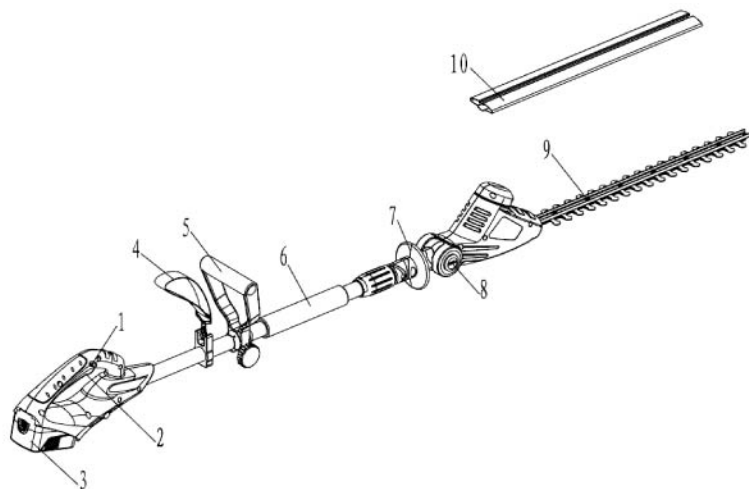

Fig.21
- When the machine is working, the hand don't exceed guard (7) or come into contact with blade (9),
- See Fig 21
OVERVIEW (Fig.21)